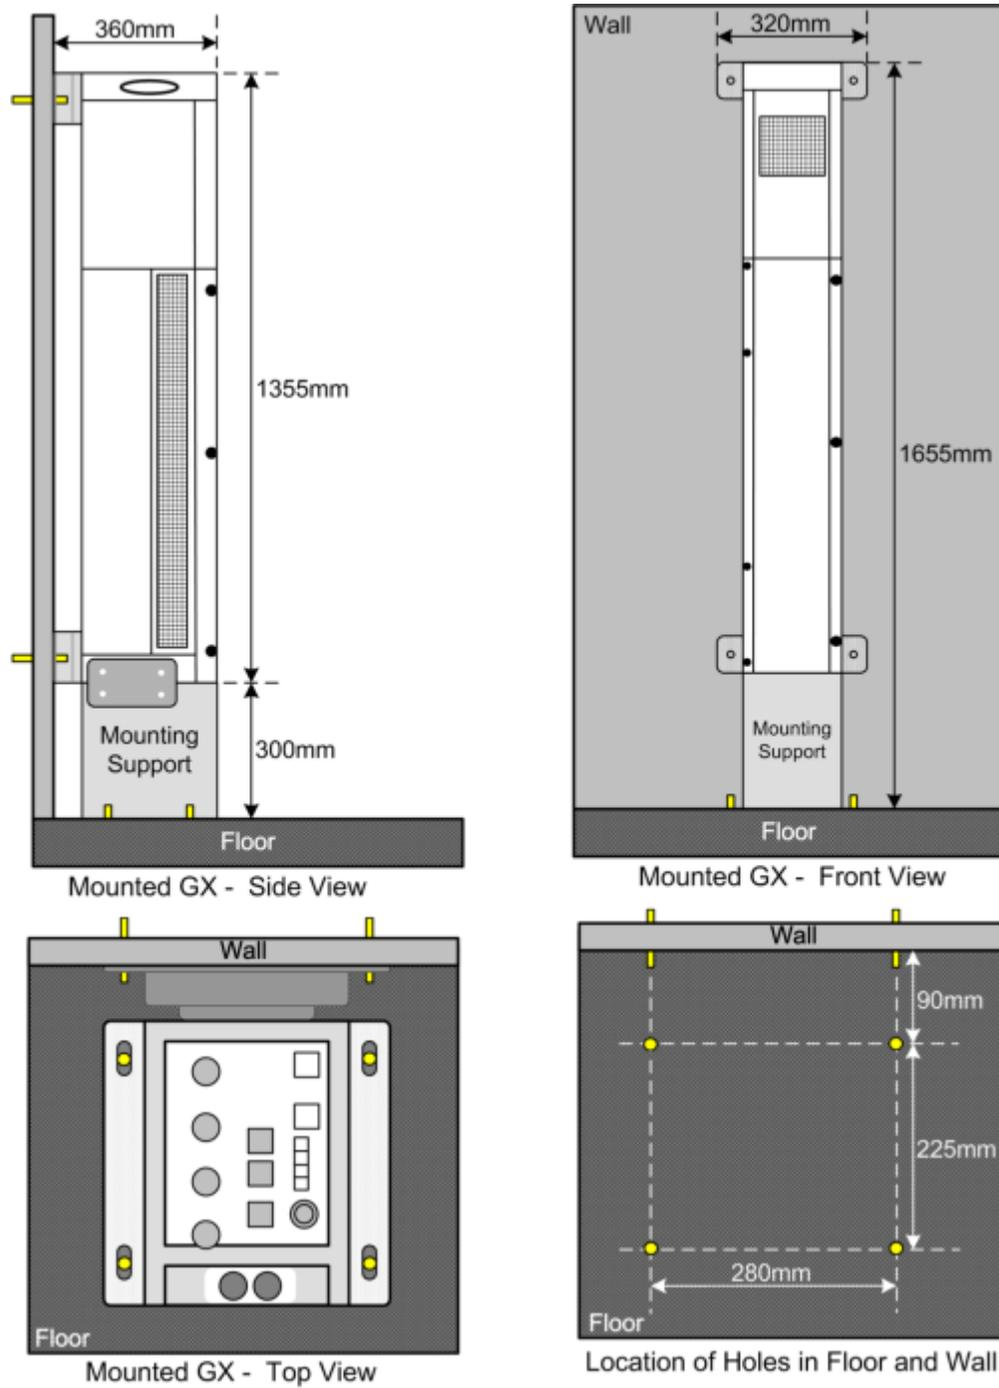

Figure 3-14. Overview of Mounting Procedure
7. Position the GX and Bracket assembly so that the mounting brackets face the wall. Refer to “Side View” (top-left image) and “Front View” (top-right image) shown in Figure 3-14.
8. Using the screw holes as a template, drill the required holes in the floor and wall (drill directly through the screw holes). Refer to “Front View” (top-right image) and “Top View” (bottom-left image) shown in Figure 3-14.